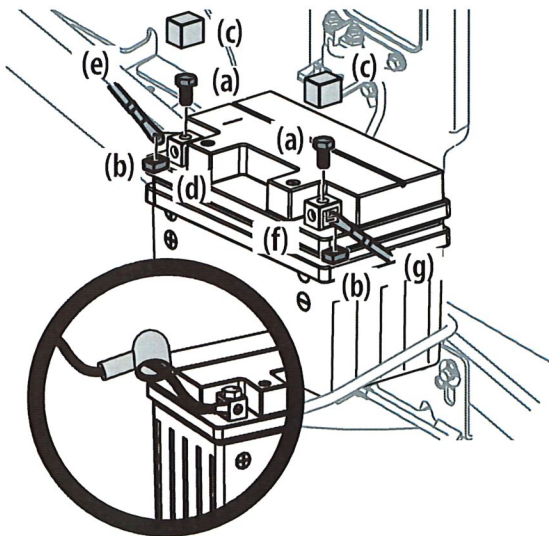

Figure 12
1. Remove the hex screws (a) and square nuts (b) located either on the end of the wiring harness or in the bag with this manual. Retain the hardware for later instructions. See Figure 12.
2. Remove the plastic cover (c), if present, from the positive battery terminal (d) and attach the red cable (e) to the positive battery terminal (d) with one of the hex screws (a) and square nuts (b), from Step 1. Use a Philips screw driver. See Figure 12.
3. Remove the plastic cover (c), if present, from the negative battery terminal (f) and attach the black cable (g) to the negative battery terminal (f) with the remaining hex screw (a) and square nut (b). See Figure 12.
4. Position the red rubber boot over the positive battery terminal to help protect it from corrosion. See inset in Figure 12.